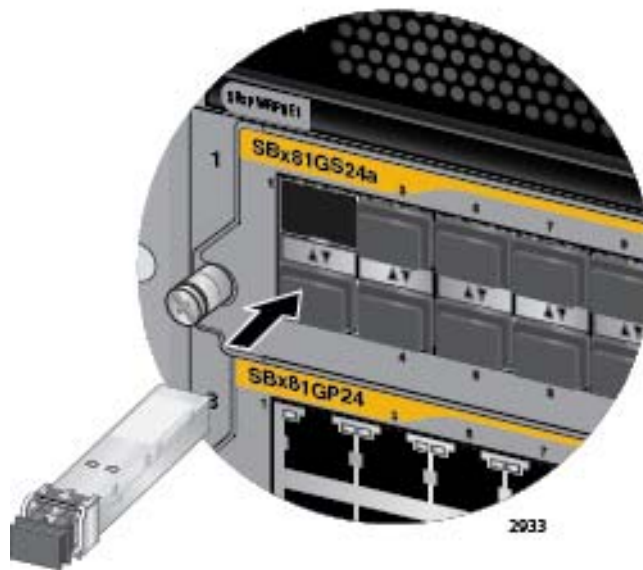

Figure 82. Inserting the SFP Transceiver in the AT-SBx81GS24a Line Card
4. Slide the transceiver into the slot until it clicks into place, as shown in Figure 82.